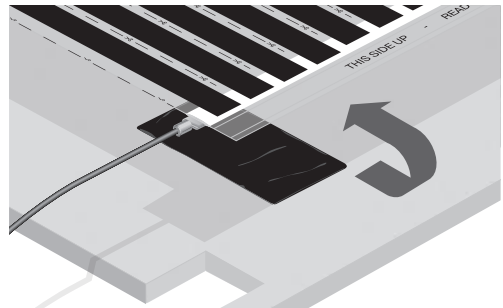

Fig. 9. Cover terminals with tape
- 14.** All connections to the rows of heating foil shall be covered with a piece of mas-tic tape 50mm wide and approx. 100mm length. Stick half of the tape to either bot-tom or top and fold it around to the other side. (fig.9)